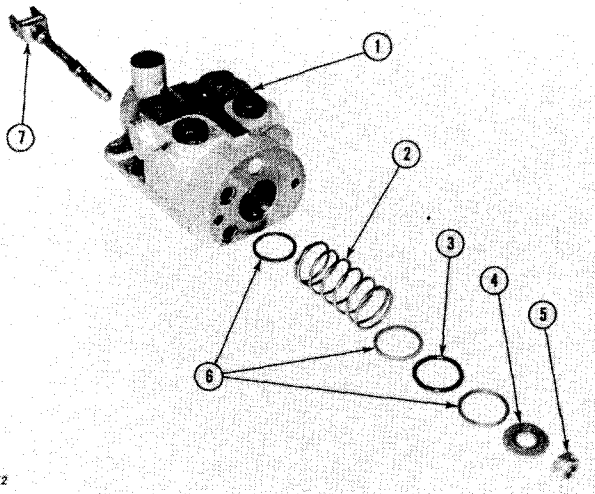

Figure 8-25
Install centering washers (6, Fig. 8-25), spring (2), new "O" ring (3) and washer (4) in housing (1). Insert flexure rod (7) through housing and install nut (5). Tighten nut to recommended torque (refer to "SPECIAL TORQUES" under "SERVICE INFORMATION").